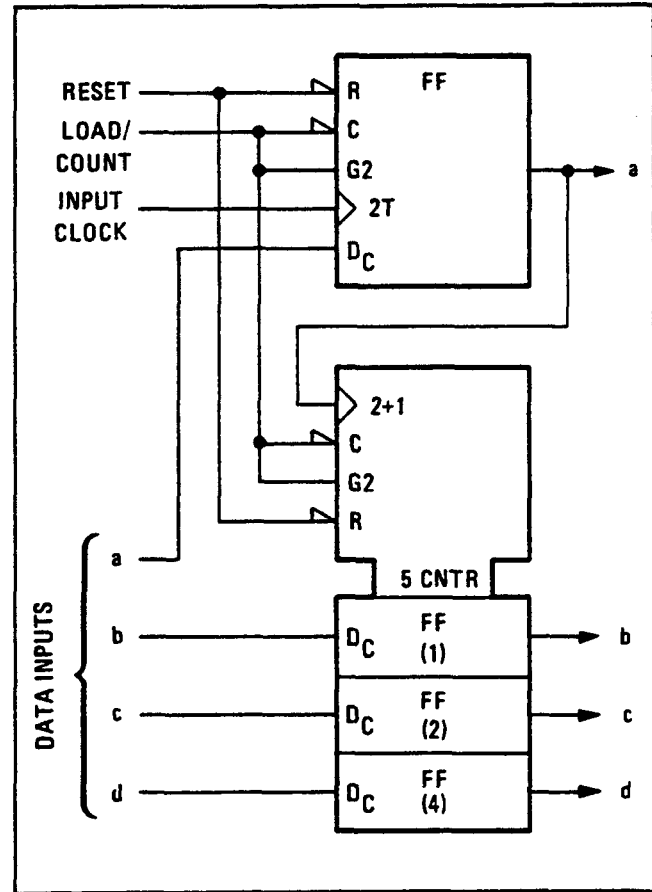

Figure 8-25. Presetable Counter
can be preset to any state by placing a low on the load/count (C) input and applying the desired data to the D inputs. As long as the load/count input is low, the outputs will follow the D inputs. When the load/count input is set high the outputs are latched to the preset values, and the output will advance one count with each low-to-high transition of the clock. The reset (R) function is asynchronous. See Figure 8-25.